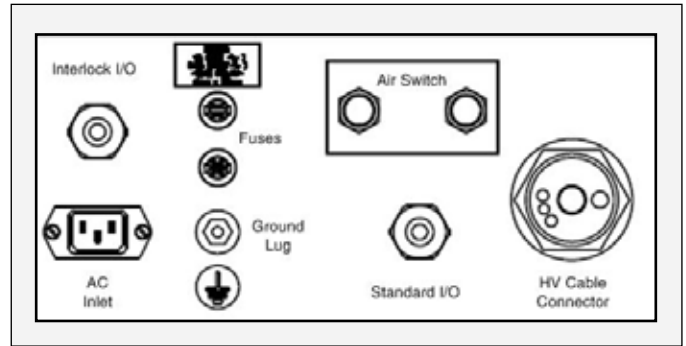

Figure 4: 9060 Connection Interface
The 9060 Controller connection interface shown in Figure 4, provides all of the required connections for setting up either a remote I/O controlled painting system or a local controlled painting system. This connection interface consists of one (1) high voltage cable connector, one (1) standard I/O connector, one (1) interlock I/O connector, one (1) ground lug connection, one (1) optional air flow switch connection, two (2) fuses, and one (1) AC inlet receptacle.